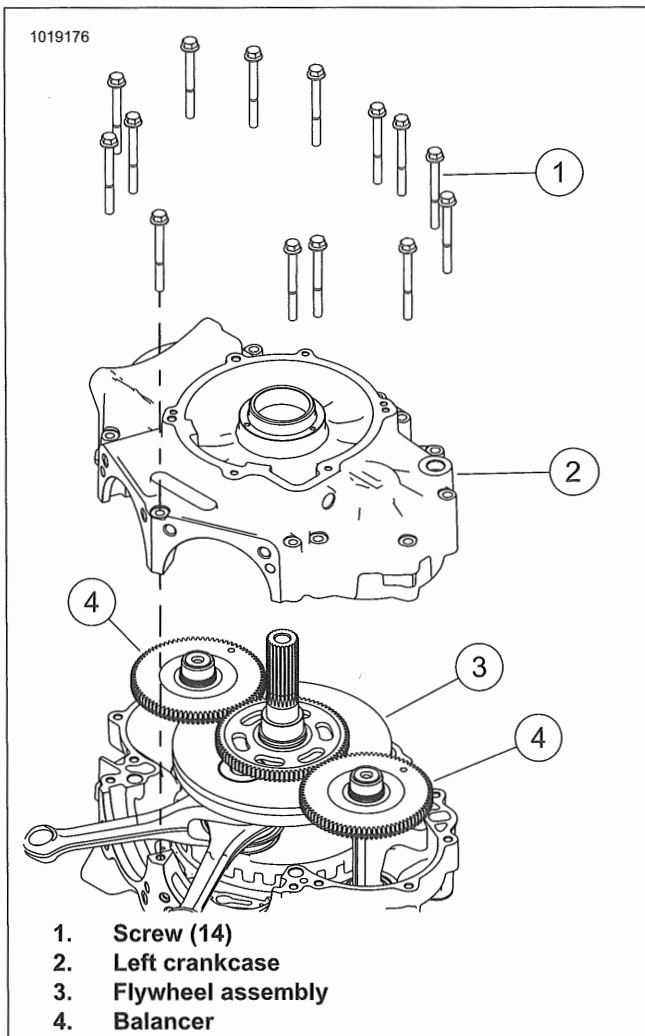

Figure 4-61. Separate Crankcase Halves
- c. See Figure 4-61. Lift left crankcase half (2) off end of crankshaft.